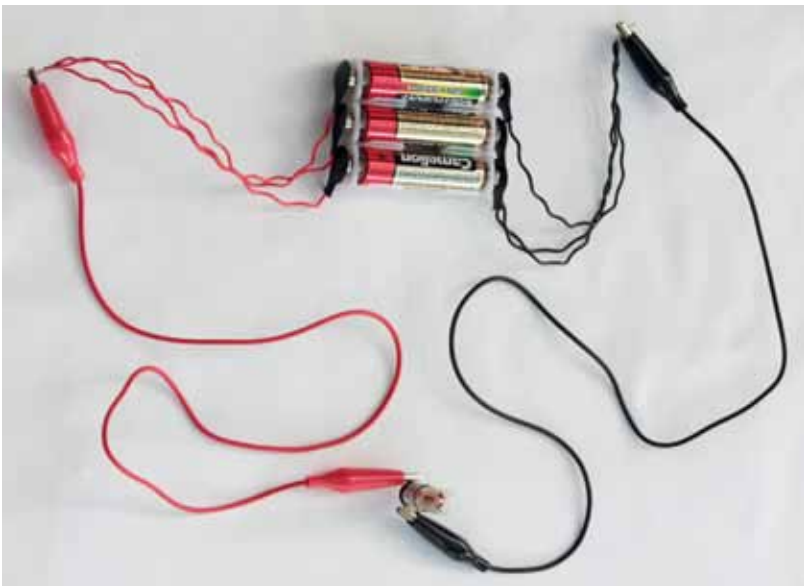

Figure 4: Three cells in parallel connected to a lamp
Figure 4 below shows two cells connected in parallel in a circuit. The positive terminals of both cells are connected to each other and to the lamp. The negative terminals of both cells are connected to each other and to the other terminal of the lamp.
3. Draw a circuit diagram of the circuit in Figure 4 in the space to the right of it.